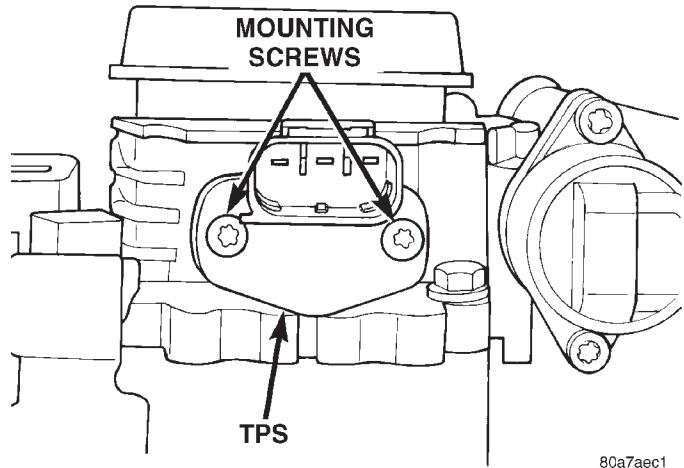

Fig. 46 TPS Mounting Screws
- (1) Disconnect TPS electrical connector.
- (2) Remove TPS mounting screws (Fig. 46).
- (3) Remove TPS.